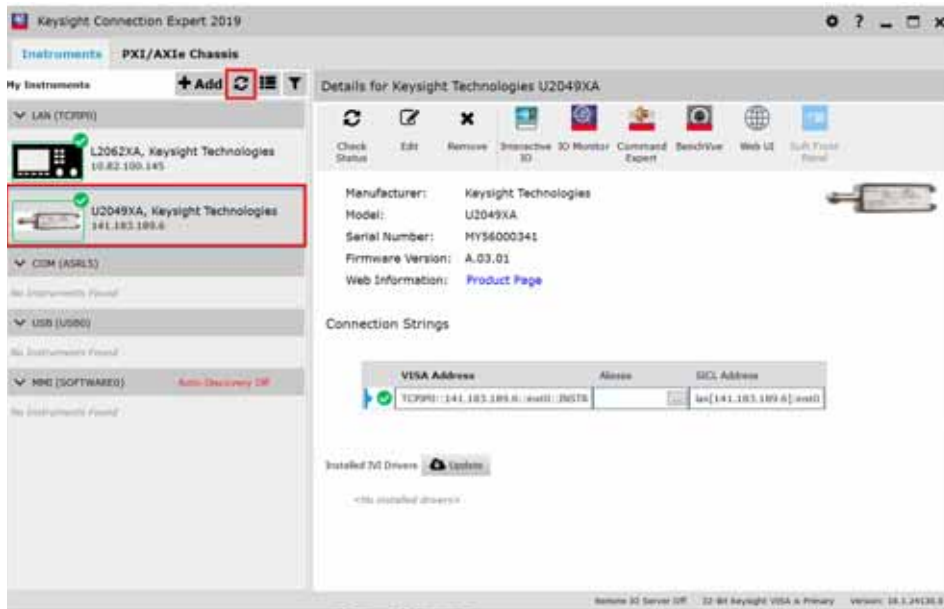

Figure 1-9 Auto-locate a LAN instrument in Keysight Connection Expert via Dynamic IP
- 7 Alternatively, you can auto-locate the U2049XA as shown in **Figure 1-9**. Click **Rescan** to start searching.